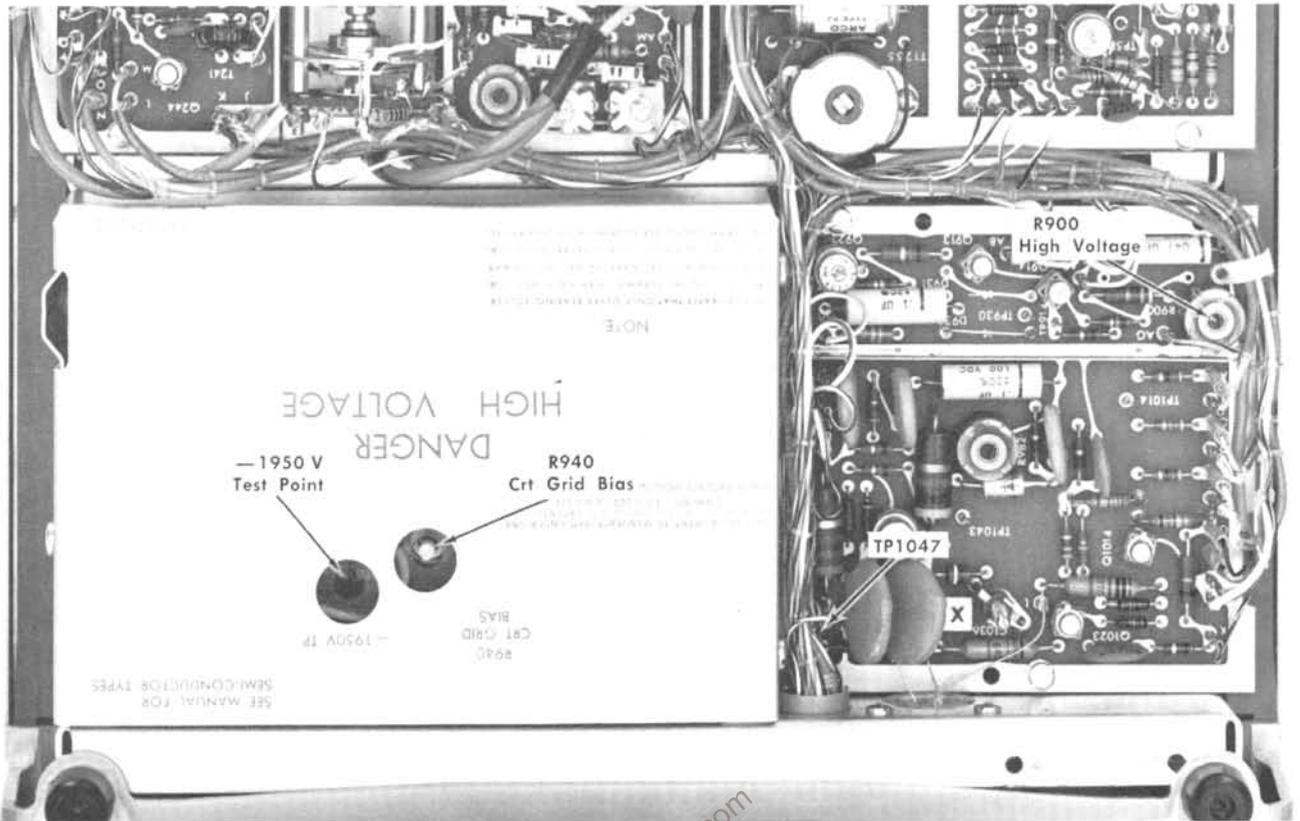

Fig. 6-10. Location of adjustments and test points on Z Axis Amplifier board.
- b. Connect the dc voltmeter from the -1950 V test point (see Fig. 6-10) to chassis ground.
- d. Adjust—High-Voltage adjustment, R900 (see Fig. 6-10), for -1950 volts .
- b. Connect the dc voltmeter from TP1047 (Z Axis Amplifier board; see Fig. 6-10) to chassis ground.
- e. Adjust—Crt Grid Bias adjustment, R940 (see Fig. 6-10), so the spot just disappears.